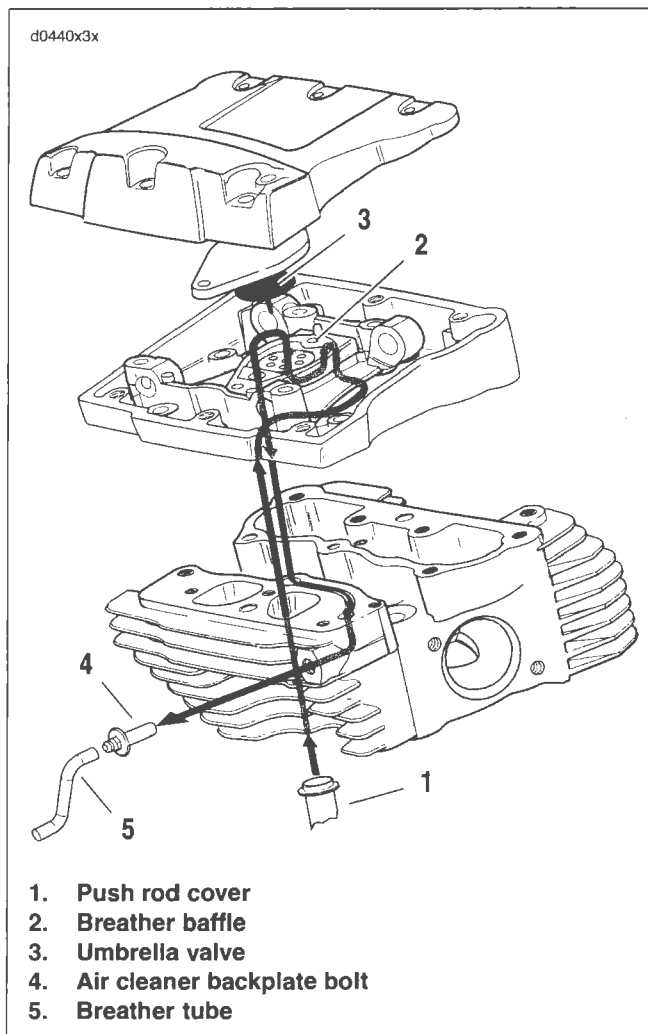

Figure 3-11. Breather Air Flow (breather disassembled for illustration purposes only)
See Figure 3-11. As each piston pushes downward on its power and intake stroke, displaced air in the flywheel compartment is vented through the crankshaft roller bearing into the cam compartment and then up the push rod covers (1) into the rocker housing.